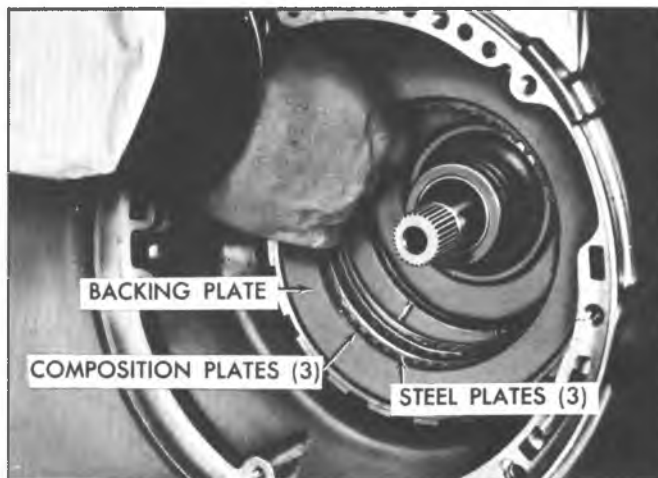

Fig. 14B—Installing Intermediate Backing Plate and Clutch Plates
- a. (All models except CL and CZ) Lubricate with transmission oil two (2) flat steel and one (1) waved steel plates and three (3) composition-faced intermediate clutch plates and install, starting with waved steel plate and alternating composition-faced and flat steel plates (fig. 14B).
- b. (Models CL and CZ) Lubricate with transmission oil three (3) flat steel and three (3) composition-faced intermediate clutch plates and install, starting with flat steel and alternating composition-faced and flat steel plates (Fig. 14B).